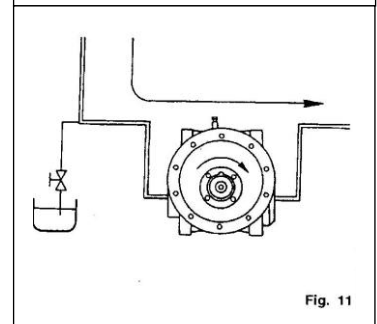

Fig. 11
**Additional lubrication**-fig. 11